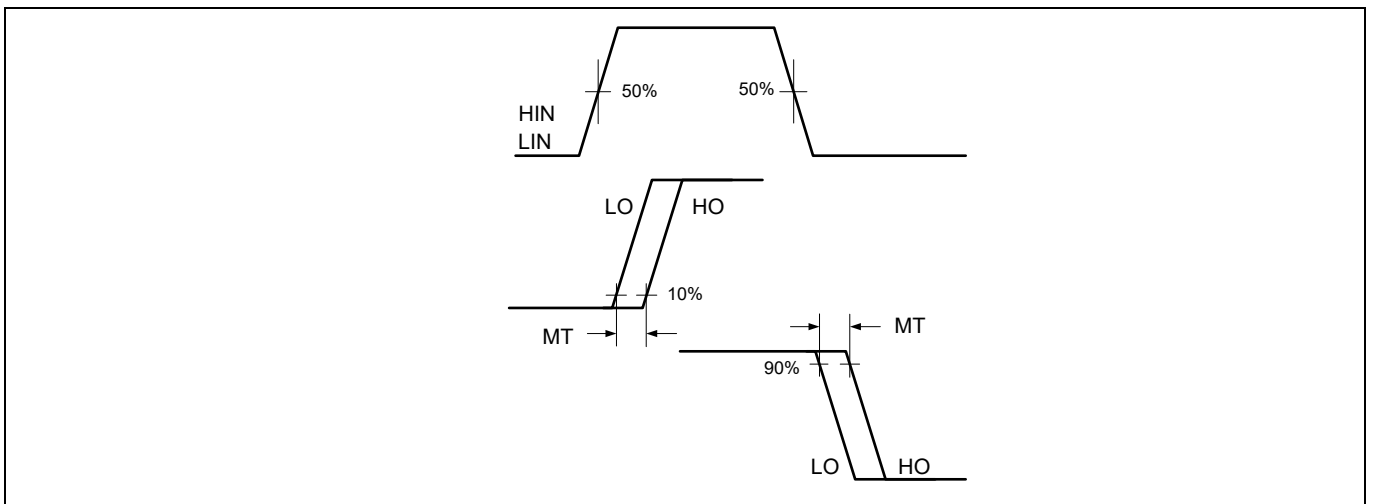

Figure 5 Delay matching waveform definition
IGI60L5050B1M is designed with propagation delay matching circuitry. With this feature, the integrated gate driver IC's response at the output to a signal at the input requires approximately the same time duration (i.e., t_{ON} , t_{OFF}) for both the low-side channels and the high-side channels as shown in **Figure 5**. The maximum difference is specified by the delay matching parameter (MT). The propagation turn-on delay (t_{ON}) of the integrated gate driver is matched to the propagation turn-off delay (t_{OFF}).